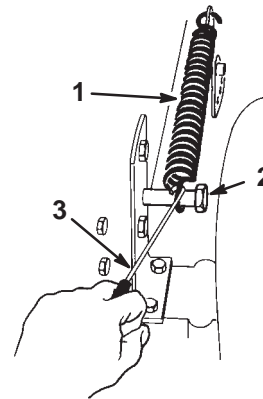

Figure 34
9. Remove the height-of-cut lift assist spring from the retaining bolt (Fig. 34), using the spring tool provided with the tractor.